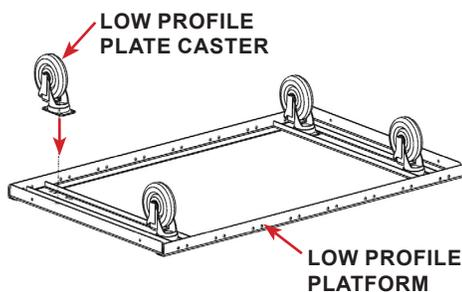

FIGURE 2.13 - Single Cage Platform
STEP 1: For single cage platforms, align the plate caster with the platform framing. See FIGURE 2.13